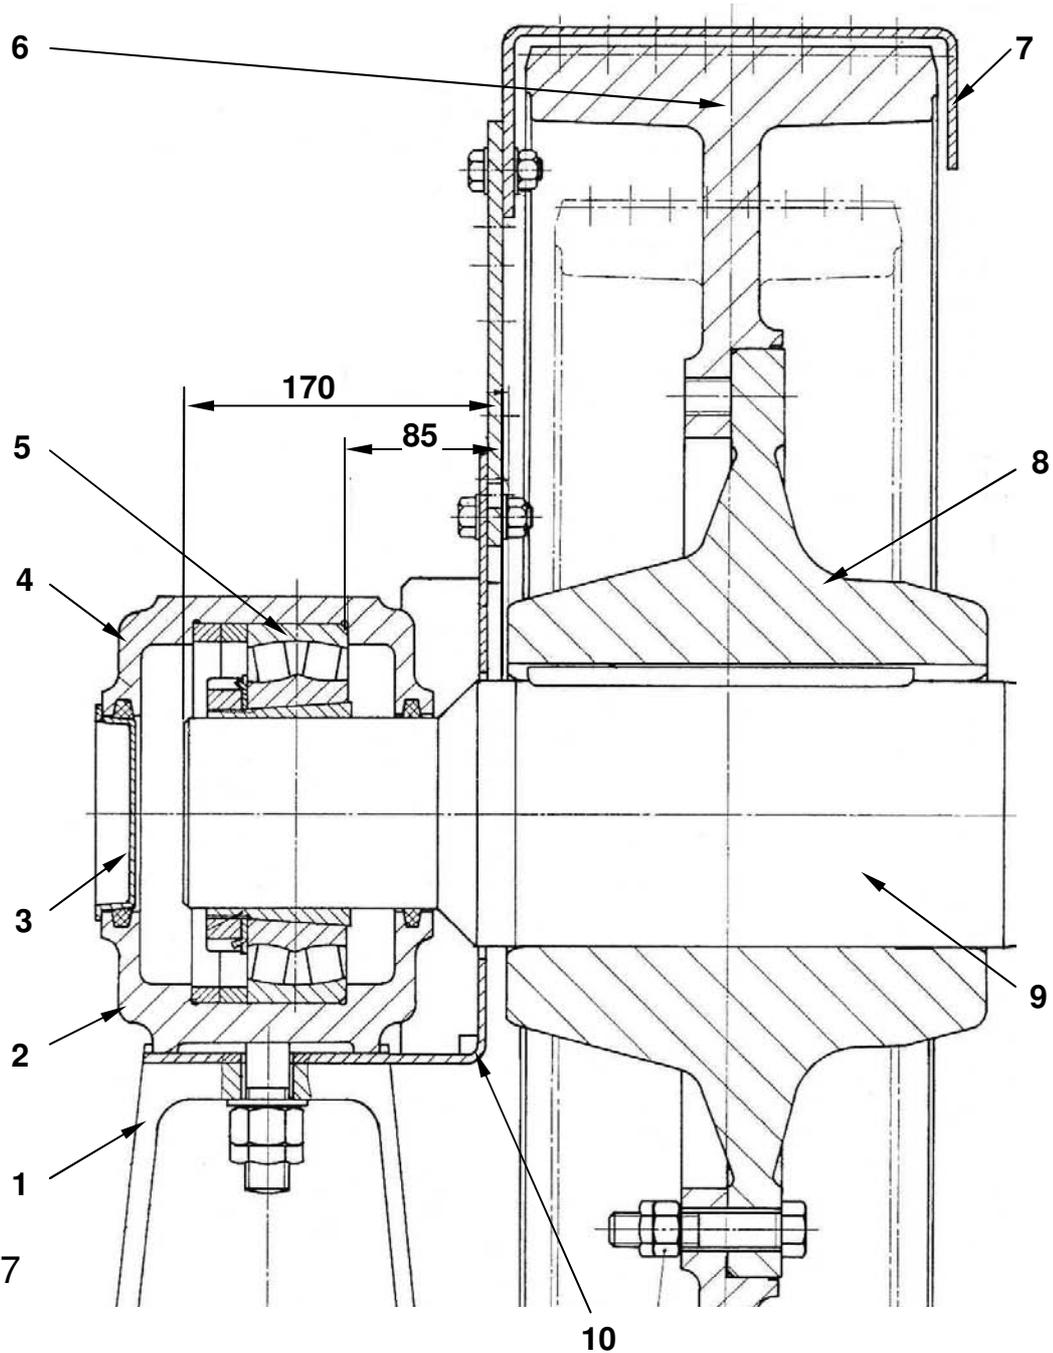
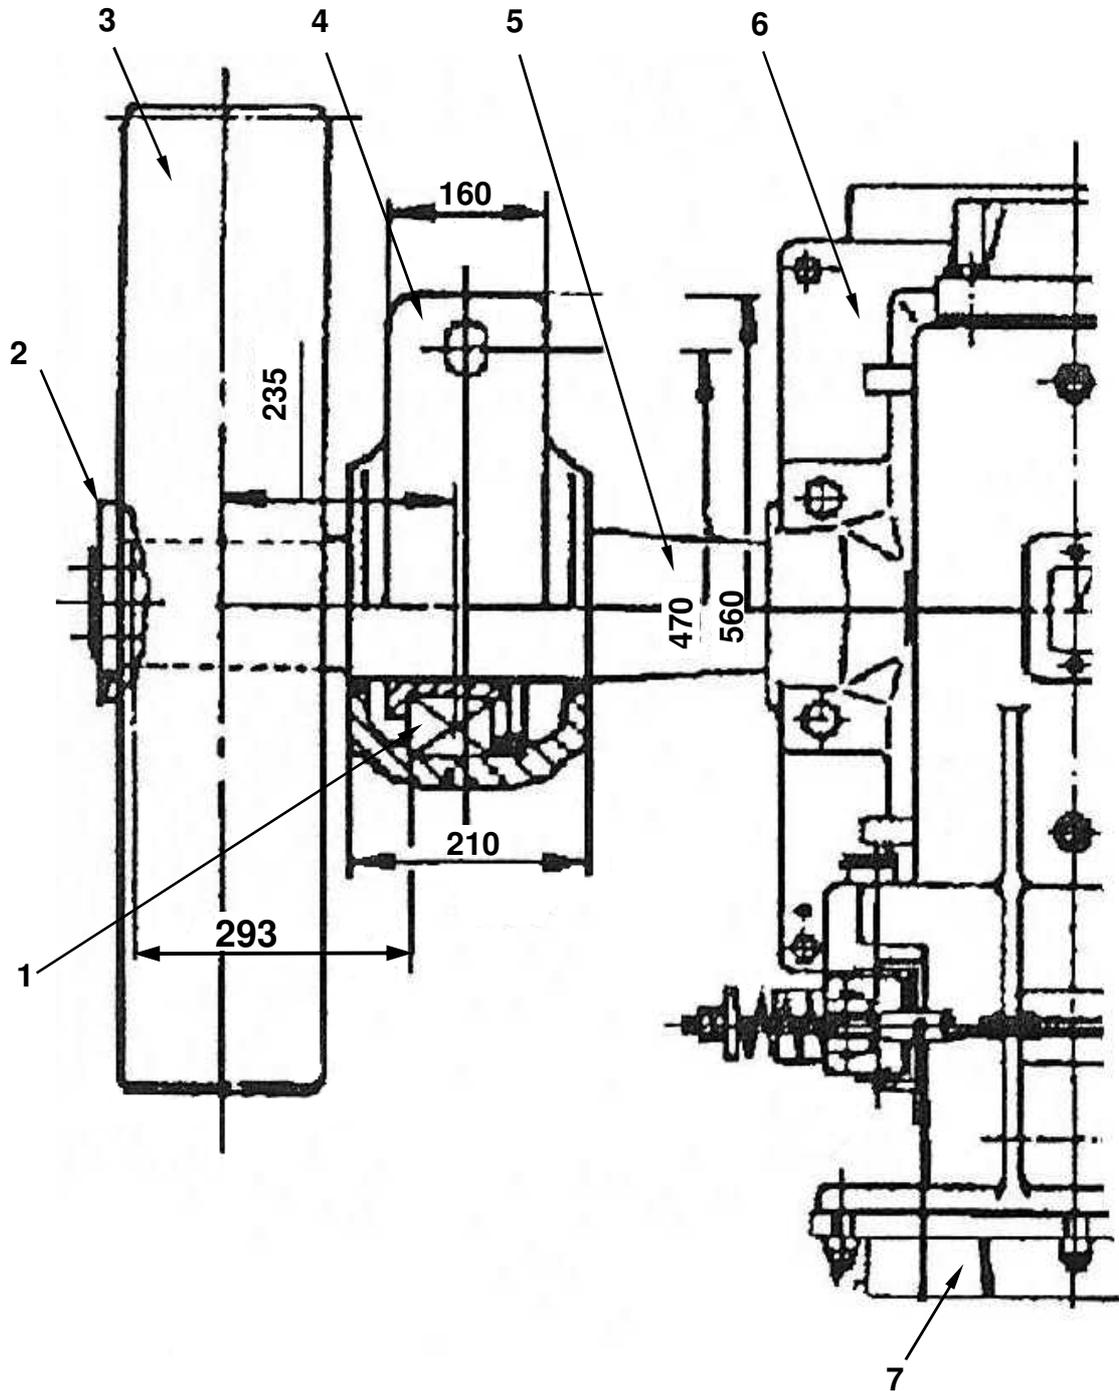

Fig. 7.7
Fig. 7.8
- Check the dimension of the gap of the bearing fit in relation to the traction sheave hub (85 mm), see Fig. 7.7. With SA9, check the seating of the supporting bearing in relation to the shaft end = 293 mm, see Fig. 7.8.